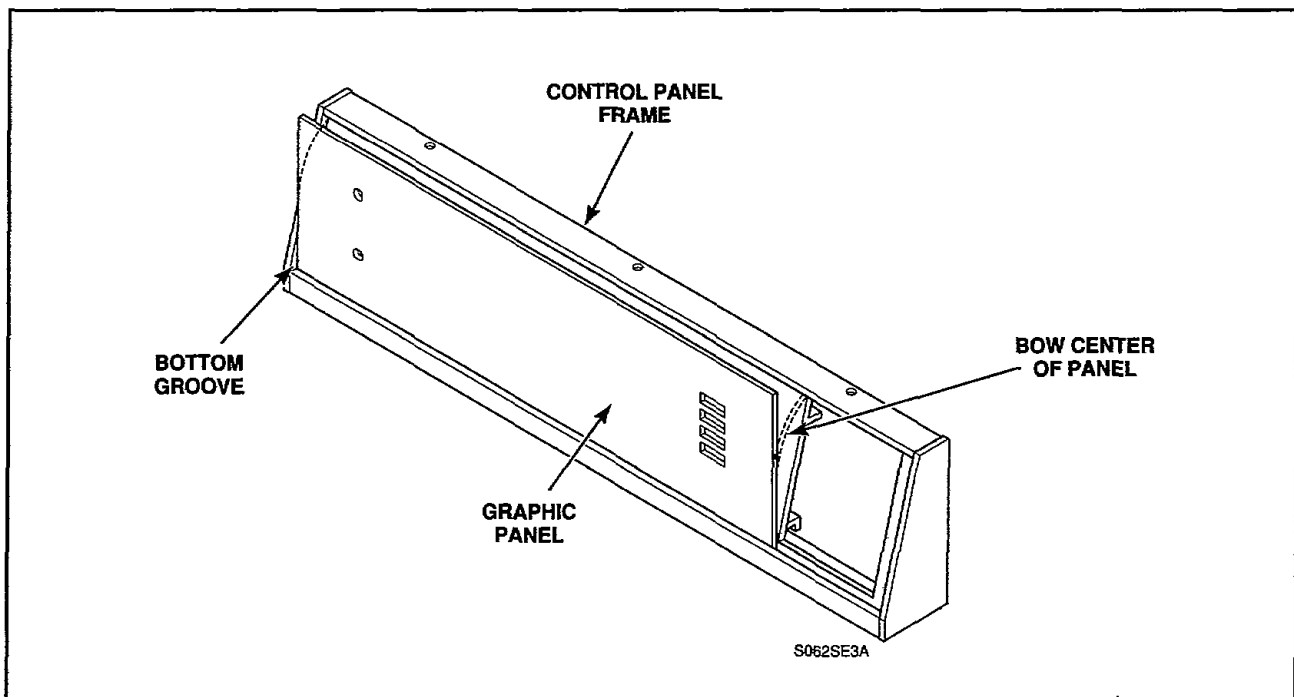

Figure 7
- Set control panel frame upward, place the bottom edge of the panel overlay into the bottom groove of the panel frame, *Figure 7*. Butt the left end of the overlay against the left end frame of the panel frame.